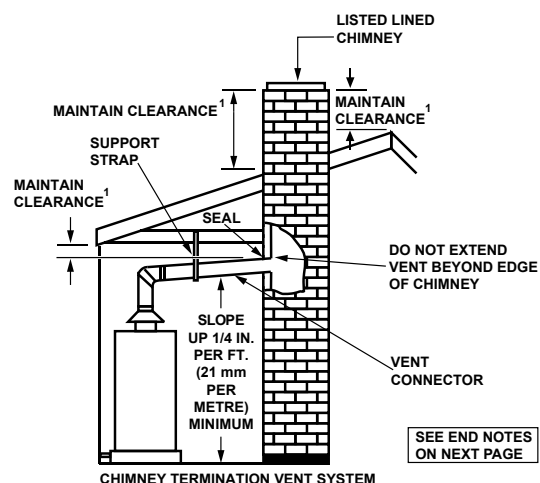

FIGURE 8.
- The connector must not extend beyond the inner edge of the chimney as it may restrict the space between it and the opposite wall of the chimney (Figure 8).